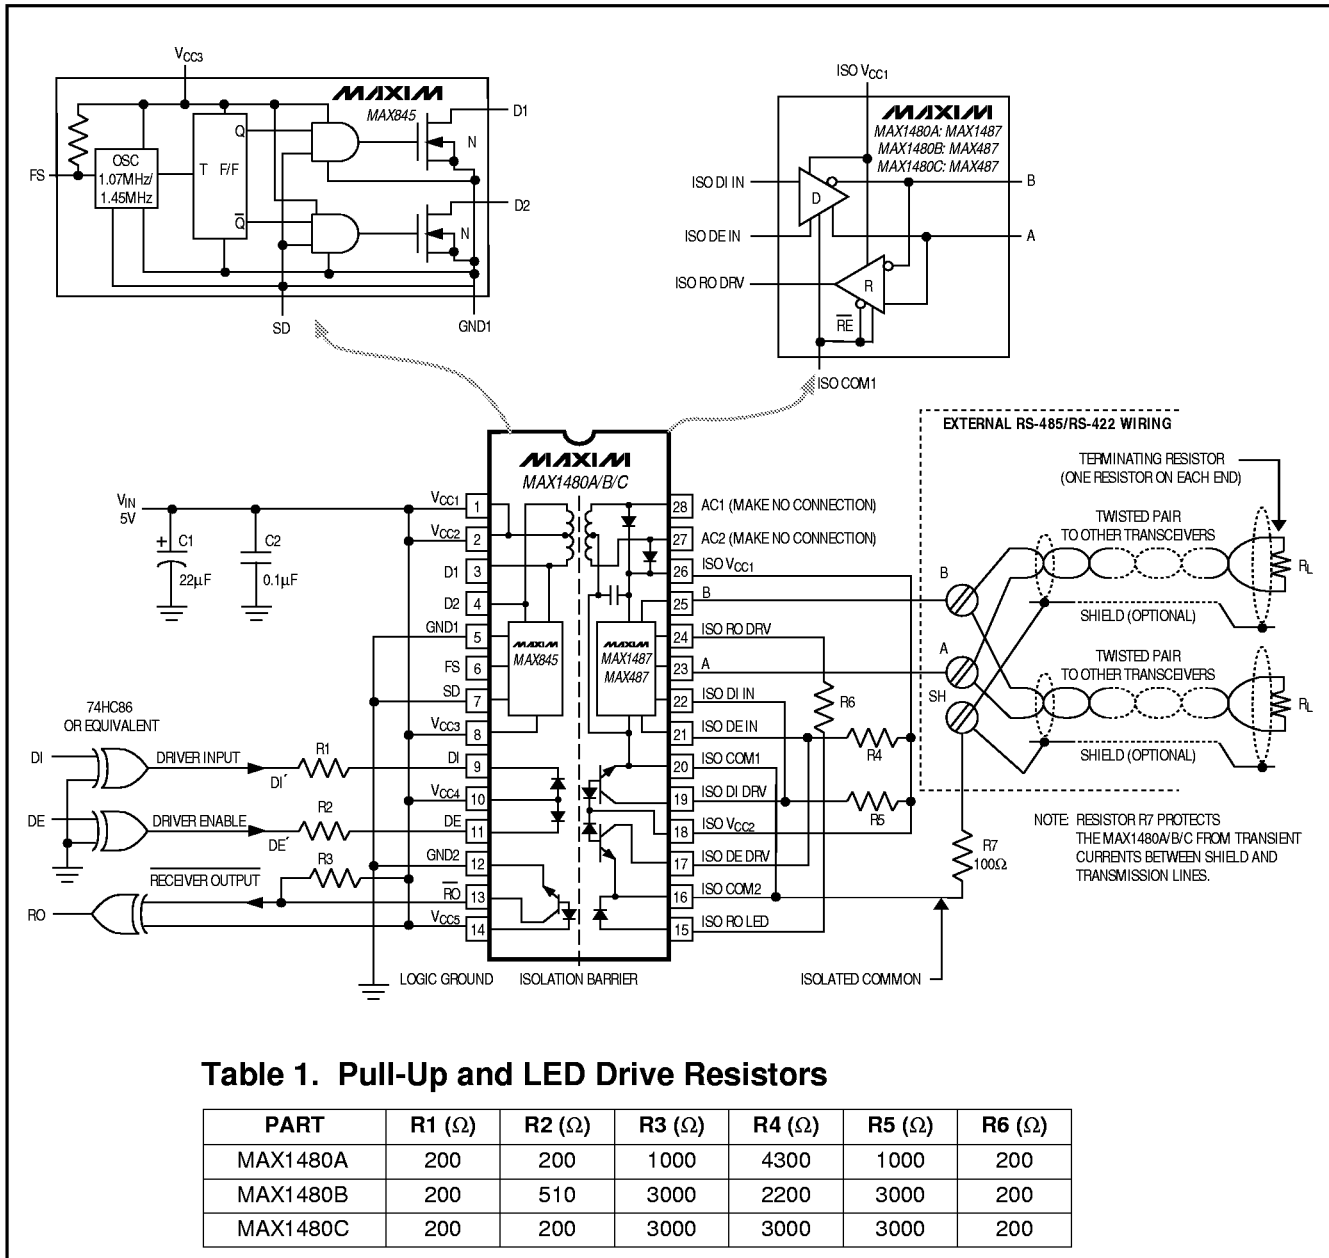
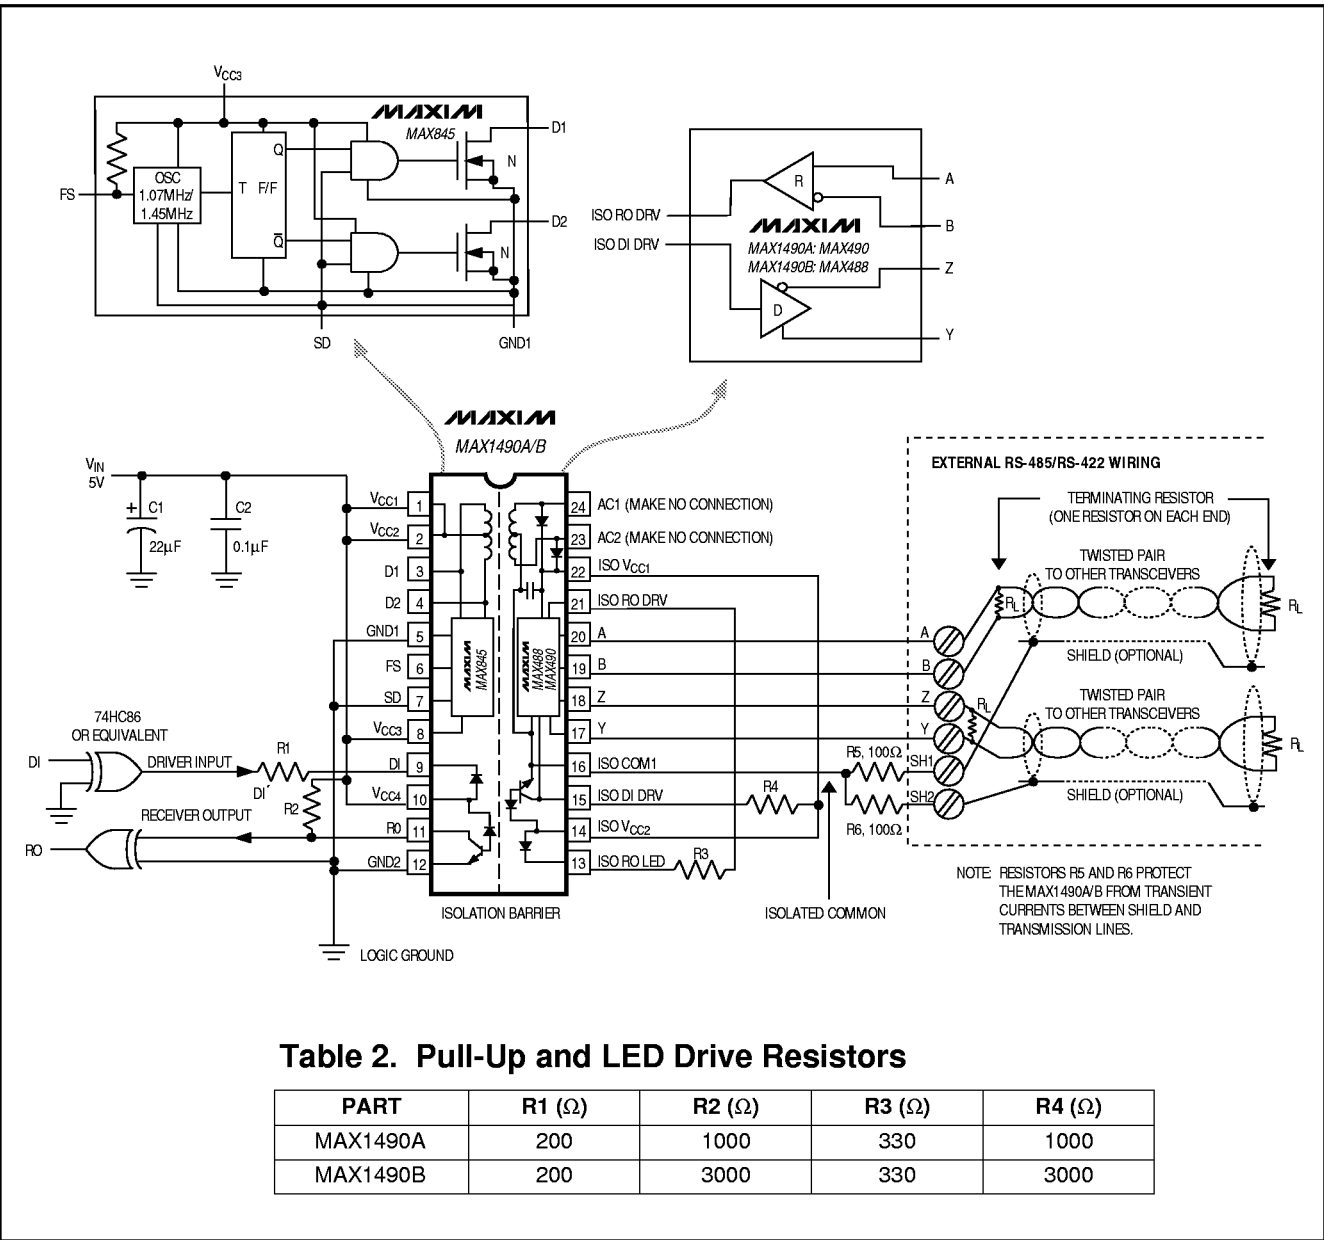

Figure 1. MAX1480A/MAX1480B/MAX1480C Detailed Block Diagram and Typical Application Circuit
Figure 2. MAX1490A/MAX1490B Detailed Block Diagram and Typical Application Circuit
Note: For DE' and DI' pin descriptions, see *Detailed Block Diagram and Typical Application Circuit* (Figure 1 for MAX1480A/B/C, Figure 2 for MAX1490A/B).
The MAX1480A/MAX1480B/MAX1480C/MAX1490A/MAX1490B are complete, electrically isolated, RS-485/RS-422 data-communications interface solutions. Transceivers, optocouplers, a power driver, and a transformer in one standard 28-pin DIP package (24-pin for the MAX1490A/B) provide a complete interface. Signals and power are internally transported across the isolation barrier (Figures 1, 2). Power is transferred from the logic side (non-isolated side) to the isolated side of the barrier through a center-tapped transformer. Signals cross the barrier through high-speed optocouplers. A single +5V supply on the logic side powers both sides of the interface. The MAX1480A/B/C offer half-duplex communications while the MAX1490A/B feature full-duplex communication. The functional input/output relationships are shown in Tables 3–6.
* For DE' and DI' pin descriptions, see *Detailed Block Diagram and Typical Application Circuit* (Figure 1 for MAX1480A/B/C, Figure 2 for MAX1490A/B).
The MAX1480A/MAX1480B/MAX1480C/MAX1490A/MAX1490B are specified and characterized using the resistor values shown in Table 1 of Figure 1 and Table 2 of Figure 2. Altering the recommended values can degrade performance.
The isolated common may be completely floating with respect to the logic ground and the effective network ground. The receiver input resistors will cause the isolated common voltage to go to the mean voltage of the receiver inputs. If using shielded cable, tie the isolated common to the shield through a 100Ω resistor. In the case of the MAX1490, each shield should have its own 100Ω resistor (Figures 1, 2, 13, and 14).